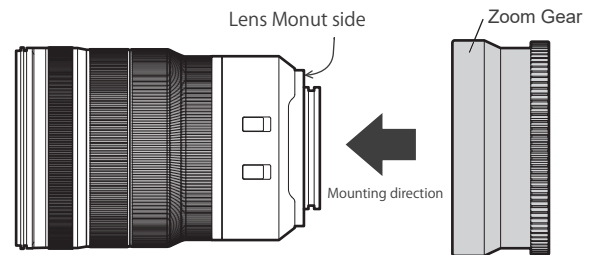

Fig.1
#### 1 Attach this product to the lens in parallel alignment with the lens as shown in Fig.1
- Please make sure to insert the zoom gear from the lens front side. (Fig.1)